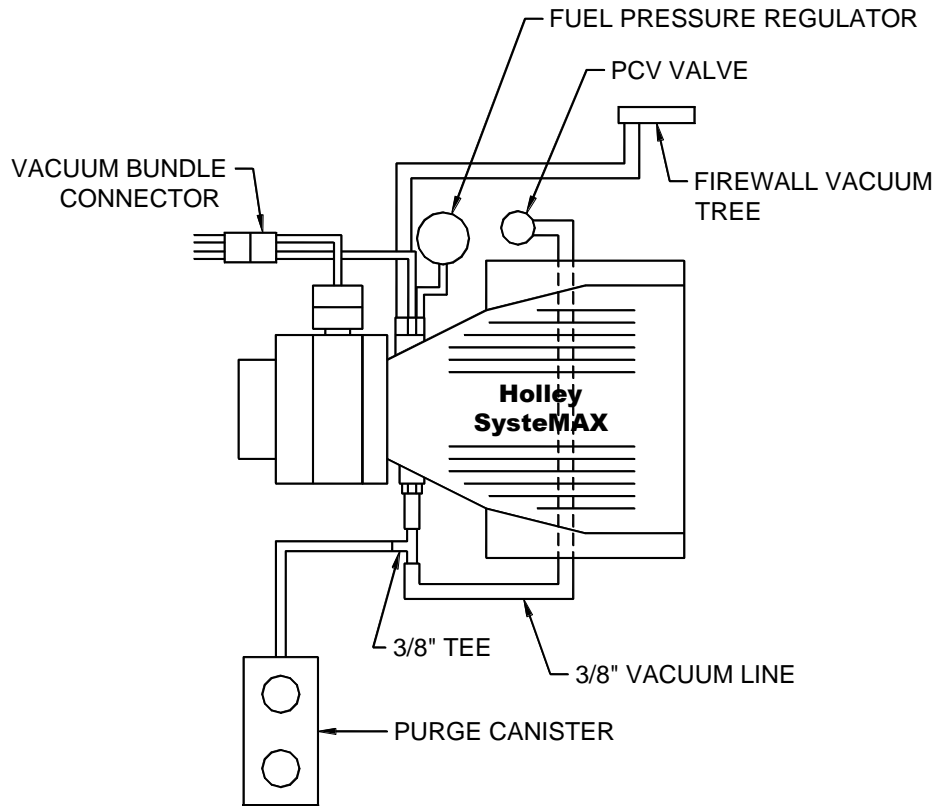

Figure 9
11. Using Figure 9 as a guide, connect the vacuum lines to the upper intake manifold. Some trimming or extension of the vacuum lines may be necessary. Connect the lines from the vacuum bundle connector to the EGR valve and the ports on the back of the manifold. Connect the fuel pressure regulator and large line from the firewall vacuum tree to the back of the manifold. Connect the PCV valve and purge canister to the front of the manifold using a 3/8" vacuum line and the supplied 3/8" Tee.